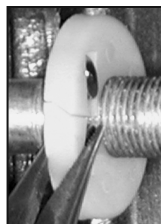
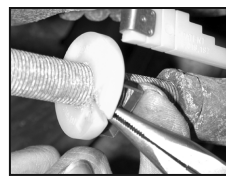

Fig. 8
Fig. 7
Step 6. Secure the BrakeSentry indicator to the pushrod by inserting needle-nose pliers into the two holes provided at either side of the split parting. Squeeze together and insert the retaining clip through the slits. (**Fig. 7**) With clip fully inserted, bend the tabs toward each other and into the recessed area of the indicator. (**Fig. 8**)